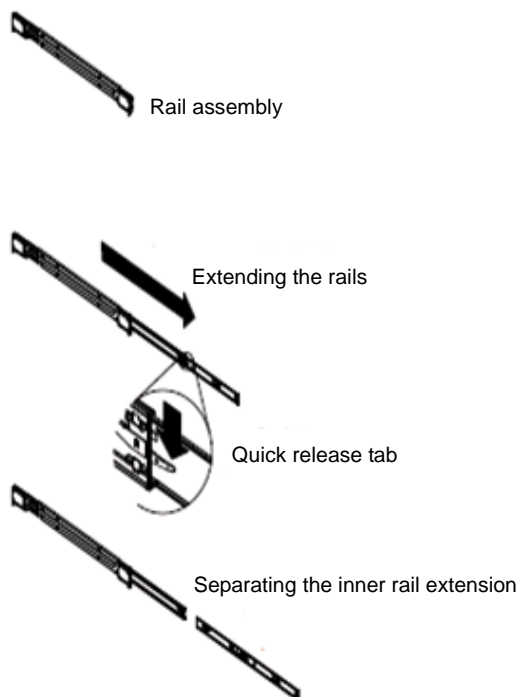

Figure 3-2 Separating the Small Quick-Release Rails
1. Separate the inner and outer rails on each assembly (refer to Figure 3-2).